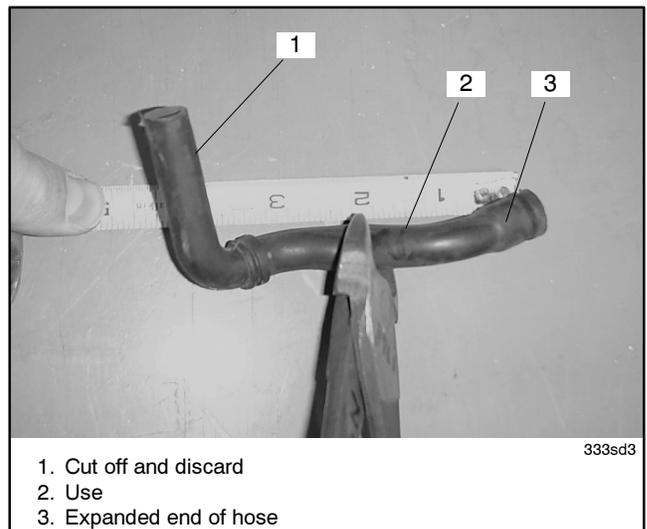

Figure 10 Cutting Off the Rubber Breather Hose
4. Cut off the rubber breather hose 50 mm (2 in.) from the engine end. See Figure 10.